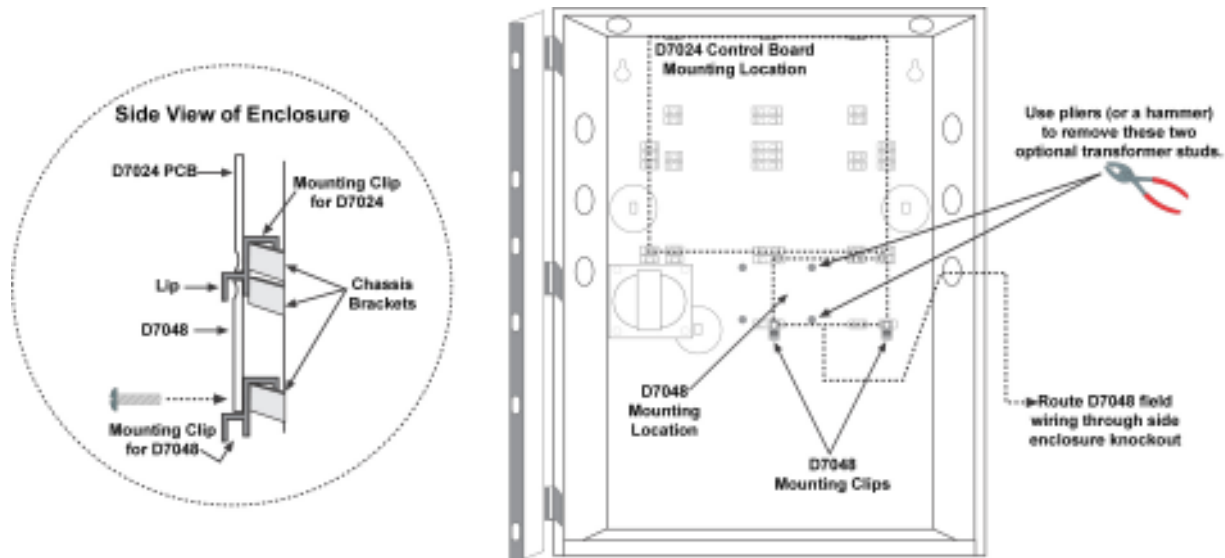

Figure 1: Installing the D7048 in the D7024 Enclosure
- 2) Remove the two optional transformer studs from the enclosure using either pliers or a hammer to rock them loose. Push the studs back through the enclosure. If the enclosure is already mounted, pull the studs forward through the back of the enclosure instead of pushing them back. See Figure 1 for details.
- 3) Place the mounting clips in the enclosure as shown in Figure 1.
- 4) Insert the upper length of the D7048 board underneath the lips of the mounting clips holding the control panel board in place. See Figure 1.
- 5) Fasten screws through the lower mounting holes on the D7048 and mounting clips from step 3. See Figure 1.